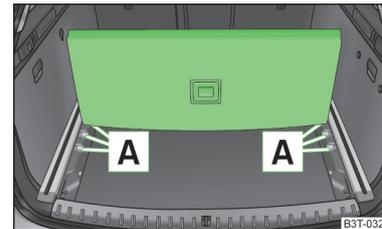

Fig. 114
- Insert the trailing edge in one of the openings **A** » Fig. 114.